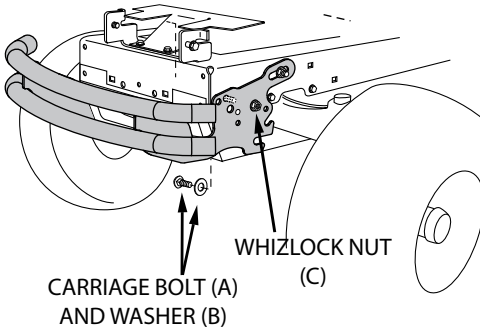

FIGURE 5
Step 5: (Fig. 5)
1. Place washers (B) onto two carriage bolts (A).
3. Install whizlock nuts (C) onto the bolts and tighten all four bolts and nuts.